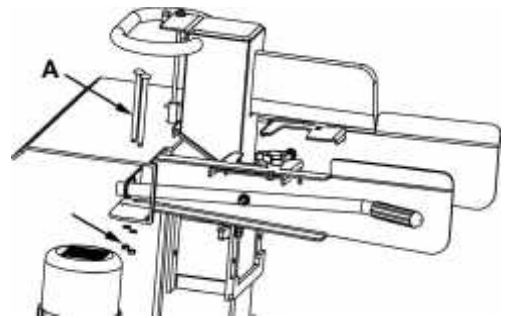

Fig.7
4.2.2.1- Control lever assembly (Fig.7)
- Insert long bolt (A)
- Fix bolt (A) on its lower side with the washer and nut.